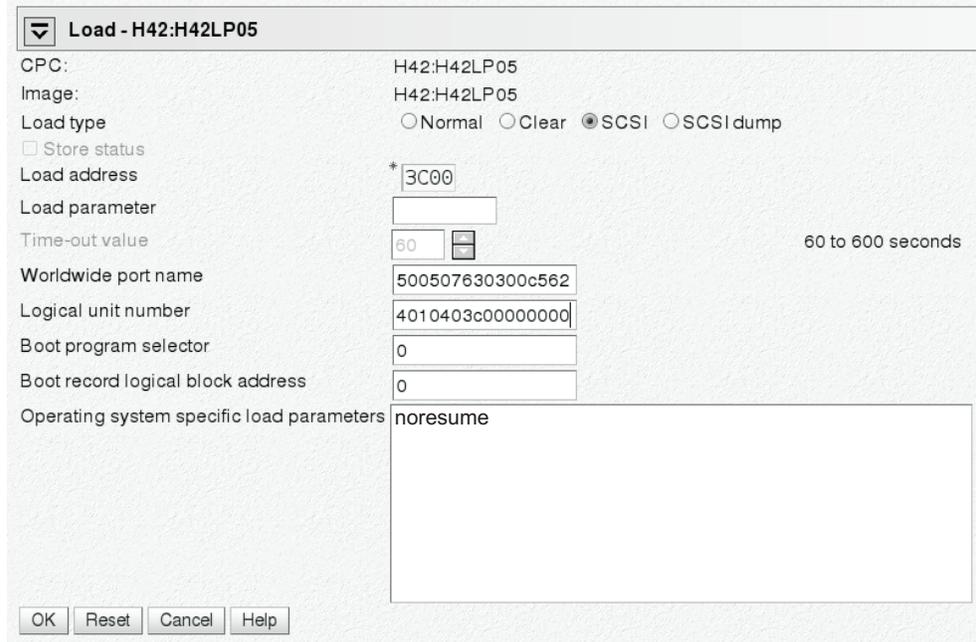

Figure 68. Load panel with SCSI feature enabled — for booting from a SCSI device
- a. Select **Load type** “SCSI” (see Figure 68 on page 358).